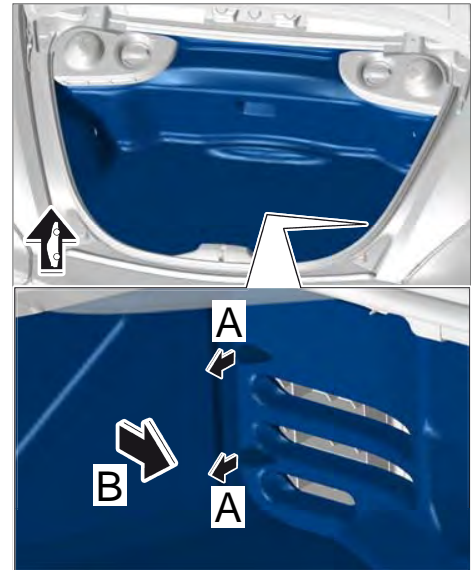

Figure 1
- Disengage trim panel for rear luggage compartment at the right at the catch ⇒ *Figure 1 -arrows A-* and fold it inwards ⇒ *Figure 1 -arrow B-*.